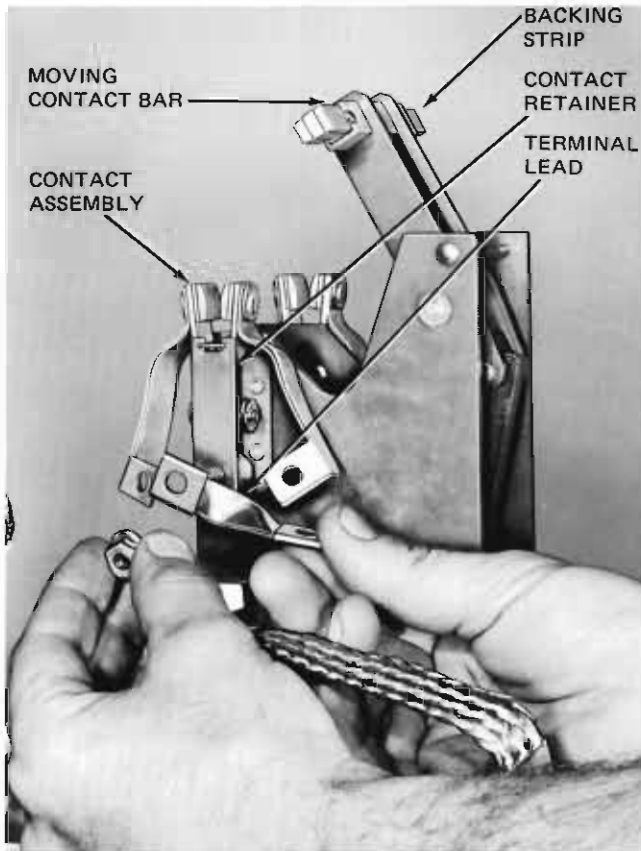

Figure 10
1. Remove hex nut and lock washer from stationary contact assembly. Lift off terminal lead and pull contact leaves off the stud as demonstrated in Figure 10.